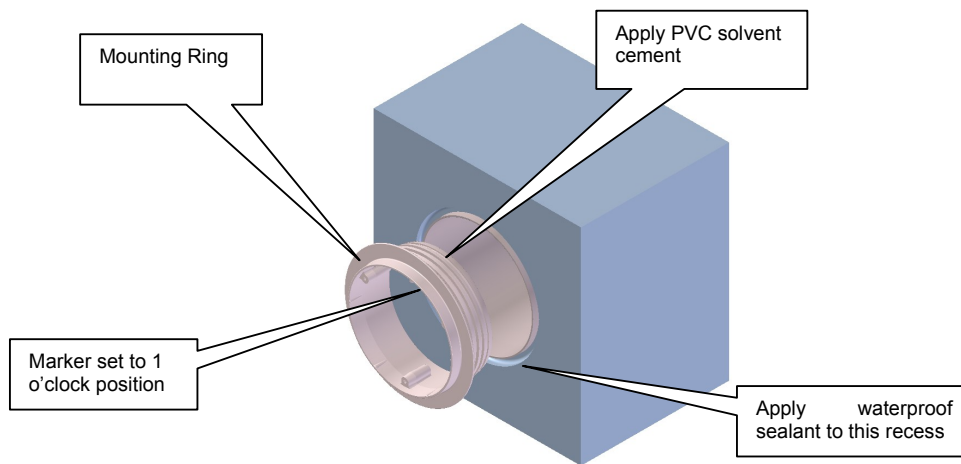

Fig.8
- Apply PVC solvent cement to swivel surface of the mounting ring and also to the inside of the niche where the mounting ring is likely to rest (approx. 20mm inside niche). See Fig. 8